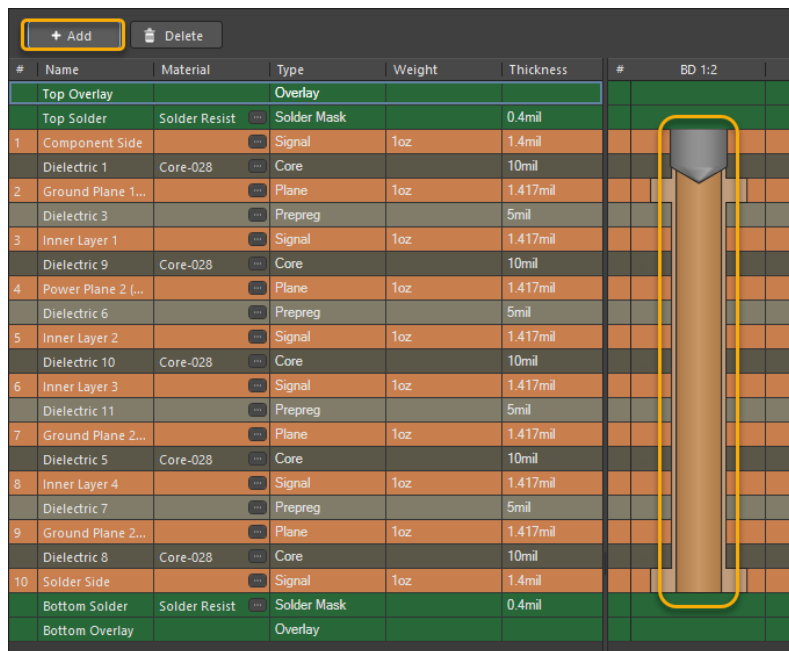

Figure 3. Default Back Drill added to the Layer Stack Manager
14. The LSM is now split with the layers on the left and Back Drills on the right. The back drill pane starts off empty. First, we will select the **+ Add** button to create the first Back Drilled via. You will notice the default via is a Component Side back drill, meaning the Top Layer (Component Side) will be back drilled, Figure 3.